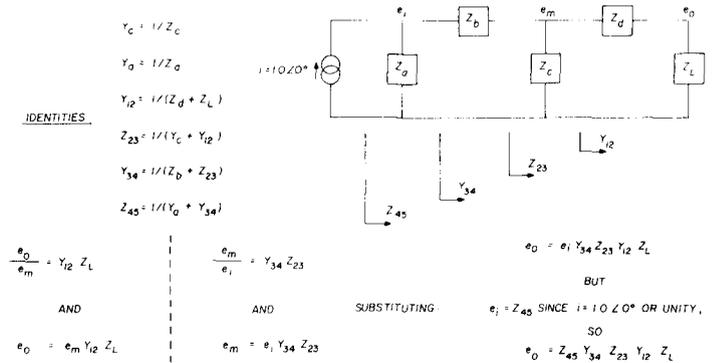

fig. 4. Five-branch ladder network, showing derivation of circuit quantities. A hand-held calculator is very useful in solving problems of this type.
A *ladder* configuration is a shunt-series-shunt sequence — a five-branch model is shown in **fig. 4**. Again, the current source is unity and e_o is relative and solved directly from impedances and admittances. This model is well suited to filter analysis.
Solution of e_o is made by multiplying all tabulated magnitudes and adding all tabulated angles. This is the same as the last e_o expression in **fig. 4** and polar multiplication rules are used. Network input impedance can be found by subtracting source admittance using rectangular form rules and converting.
*Amateurs who are not familiar with networks are often confused by the numeric subscripts which are used. The designator Y_{12} , for example, refers to the admittance looking into sections 1 and 2 of the network; likewise, Z_{45} refers to the impedance looking into sections 4 and 5 of the network (see **fig. 4**). In filters, capacitors and inductors are often designated in the same manner — in terms of their relative positions within the filter network.
Suppose you have a circuit model like fig. 4 and there are two Z_d and two Z_L branches in separate paths. Solve Y_{12} for the second path and record it. Solve the first path as before except the second path's Y_{12} is also added to Y_c plus Y_{12} of the first path. Z_{23} is the total impedance of both paths.